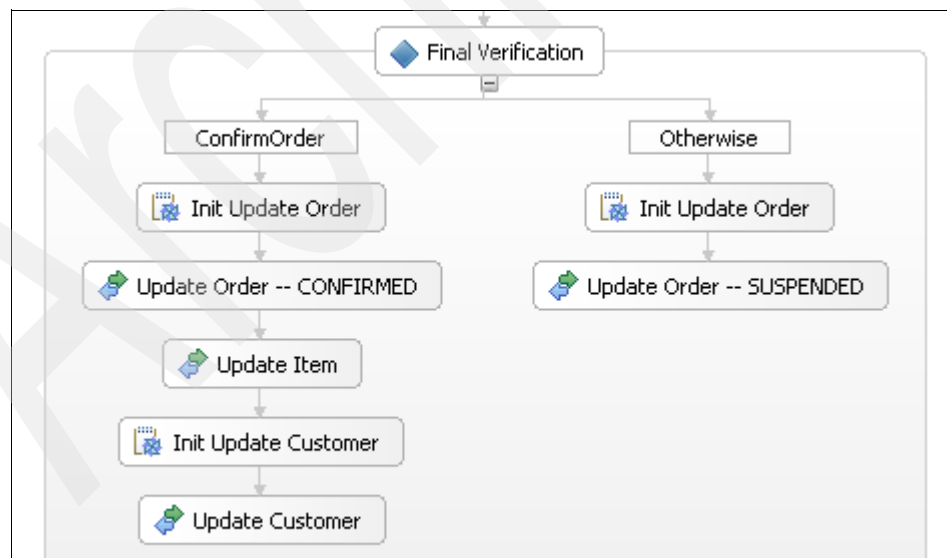

Figure 3-180 Final Verification design
- Verify the Final Verification design looks as shown in Figure 3-180.